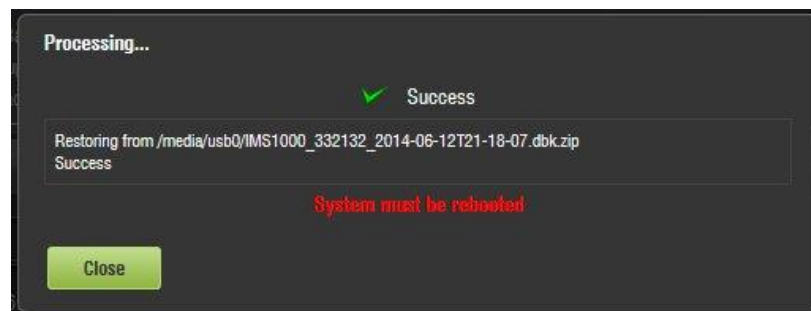

Figure 209: Processing Window
- The Processing window will appear (Figure 209).
- You will be required to reboot the system to complete the restore process. To reboot the system, go to the System tab (Figure 209).